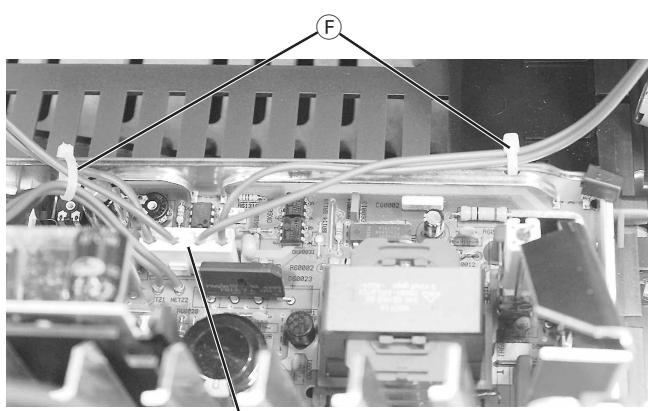

Fig. 10 ST-NETZ1
- Disengage the cable clamps ⑥ from the mains leads on the chassis frame and pull off ST-NETZ1 if necessary (Fig. 10).